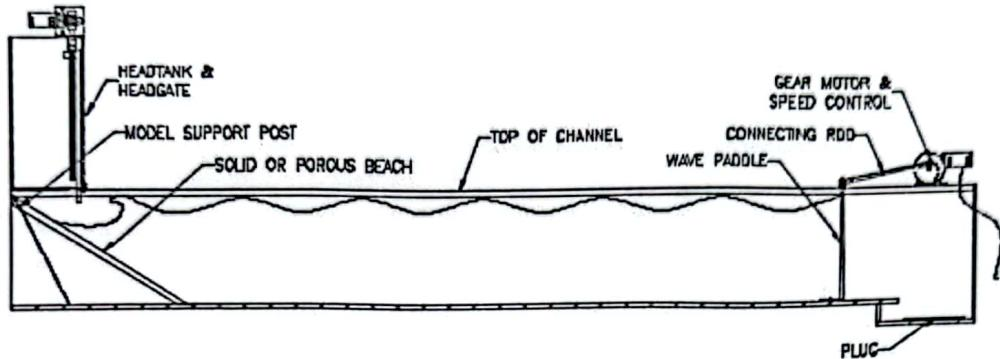

Figure 1: Wave Generator Model Installation Diagram
1. Initial settings (Fig. 1):
2. Mount the wave paddle to the downstream floor of the channel using two (2) #10-24UNC-2A x 0.625" long Round Head Machine Screws (RHMS) into the last bolt location. Orient the base and paddle as shown.
4. Connect the wave paddle rod to the flywheel in any of the seven (7) threaded holes. Tighten fully and secure the lock nut.
6. Mount either the solid or permeable beaches at the upstream end of the channel. Place the top edge between the aluminum retaining posts and the perforated plate. Secure the base to the channel floor using two (2) #10-24UNC-2A x 0.25" long RHMS.